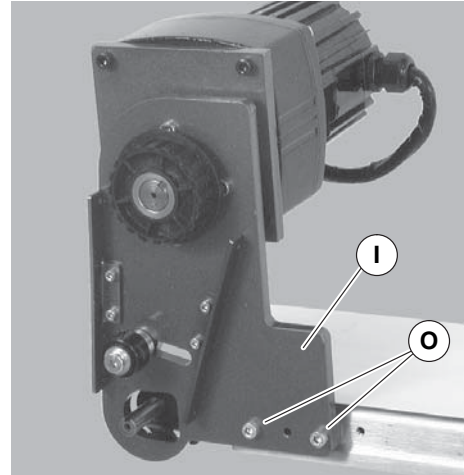
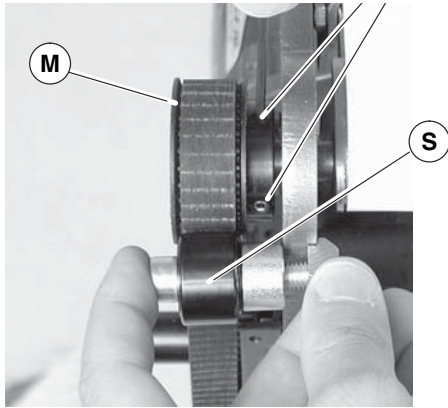

Figure 9
Figure 11
4. Attach mount assembly (Figure 9, item I) with screws (O). Tighten screws to 80 in-lb (9 N-m).
6. Wrap timing belt (P) around driven pulley (M) and drive pulley (J). Install driven pulley onto conveyor shaft (Q).
7. Remove cam bearing and spacer (Figure 9, item S). Place the cam bearing and spacer (Figure 11, item S) next to the driven pulley (M). Ensure the flanges of the driven pulley are aligned with the cam bearing. Tighten driven pulley set screws (T). This will allow for proper belt alignment while conveyor is in use. Install cam bearing and spacer (S).